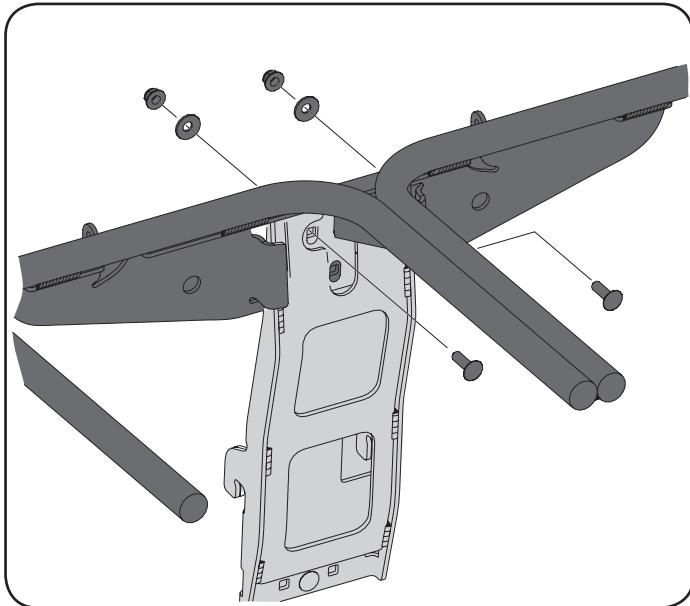

Figure 12
- Install the hanger assembly onto the upright support bracket using two carriage bolts (710-0276), two washers (736-0242), and two nuts (712-04063). See Figure 12.